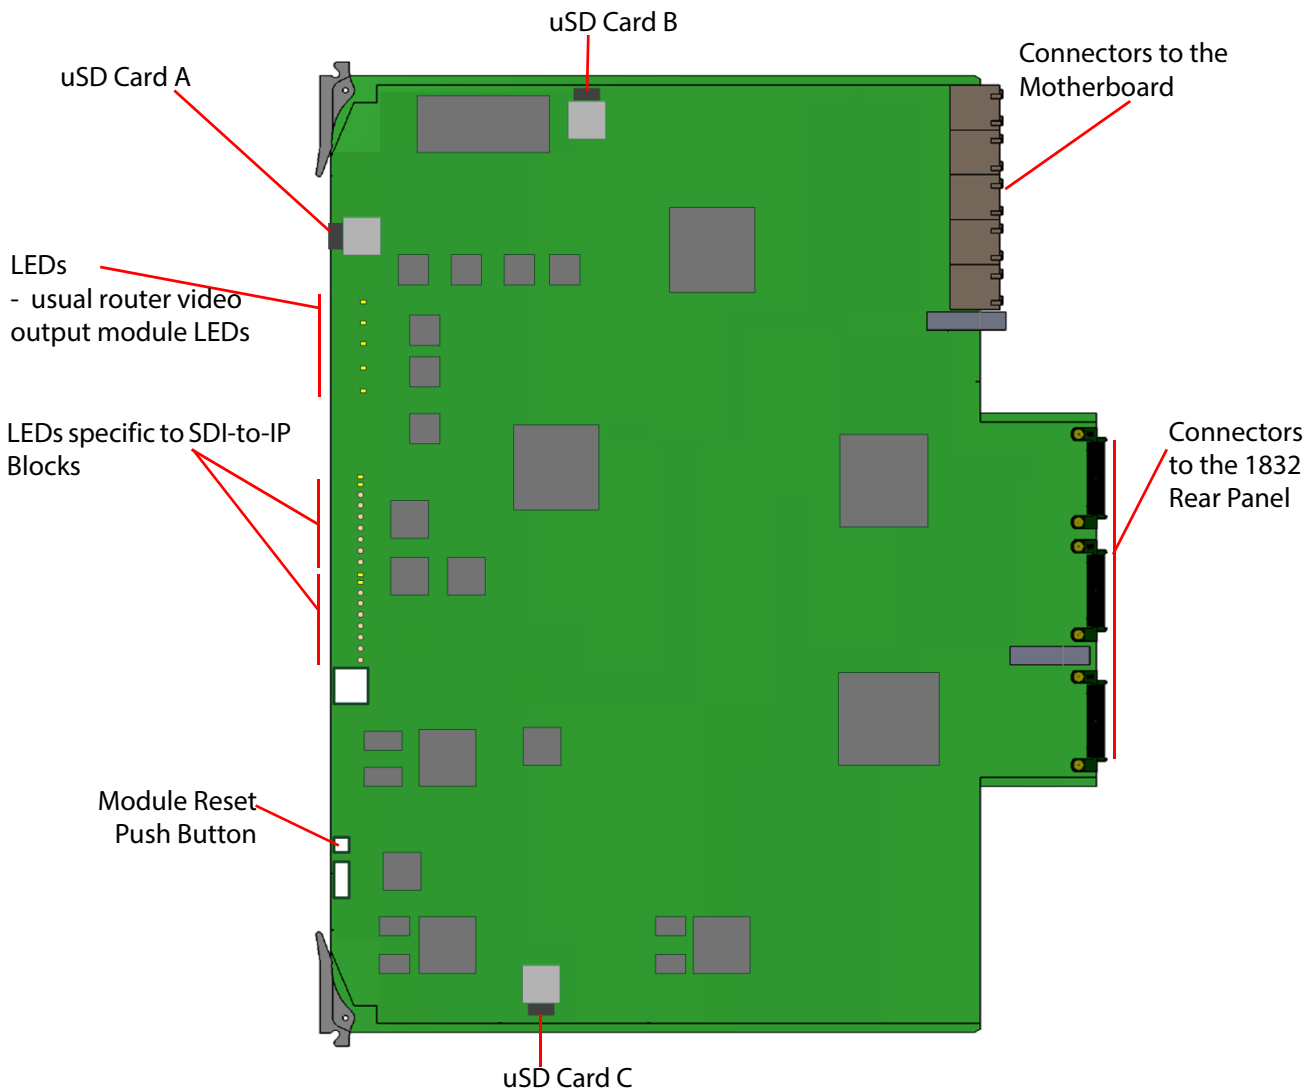

Figure 150 5970 Video IP Output Module
**Note:** The 5970 has 3 micro SD cards (see Figure 150) containing board software/firmware: